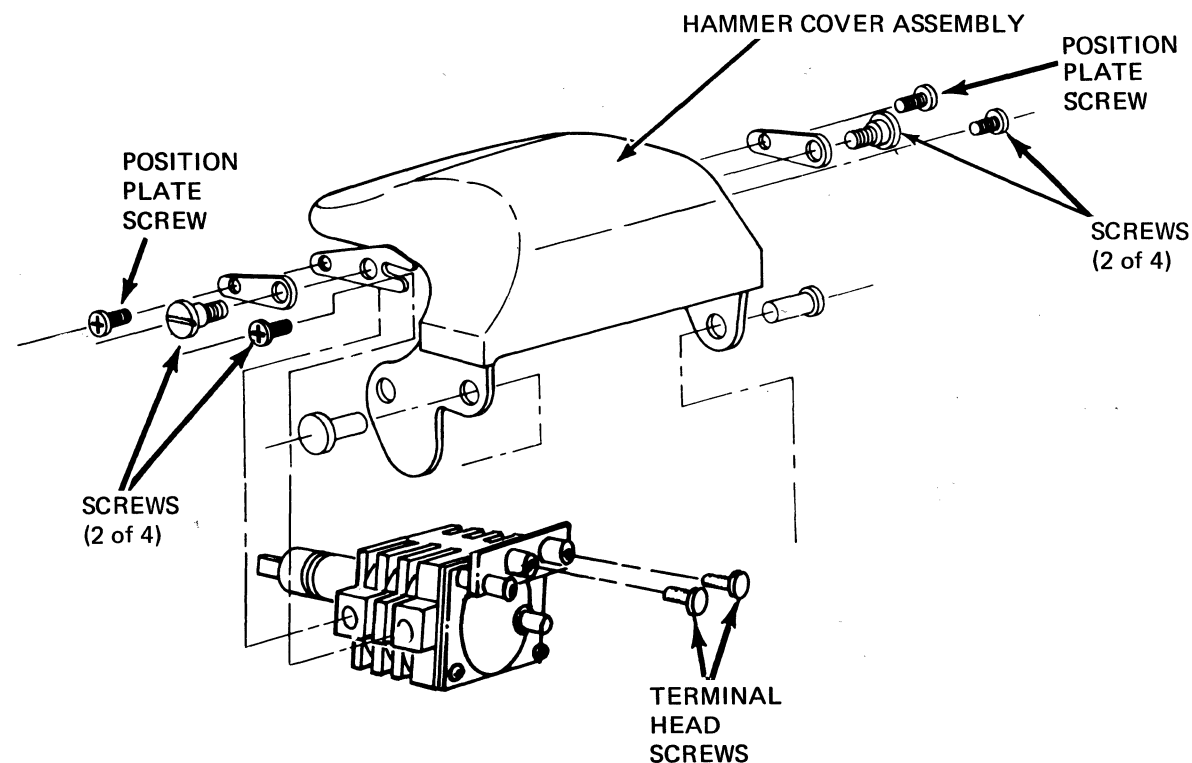

Figure 4-14 Print Hammer Disassembly
- d. Secure the carriage to the guide casting assembly with three screws (see Figure 4-14).
- d. Raise the hammer cover assembly (see Figure 4-14) by unlocking the lock lever and tilting the hammer upward.
- e. Remove the four screws that secure the hammer to the hammer cover (see Figure 4-14).
- f. Remove the two terminal head screws shown in Figure 4-14.
It is normally not necessary to remove or even to loosen the position plate screws (see Figure 4-14).